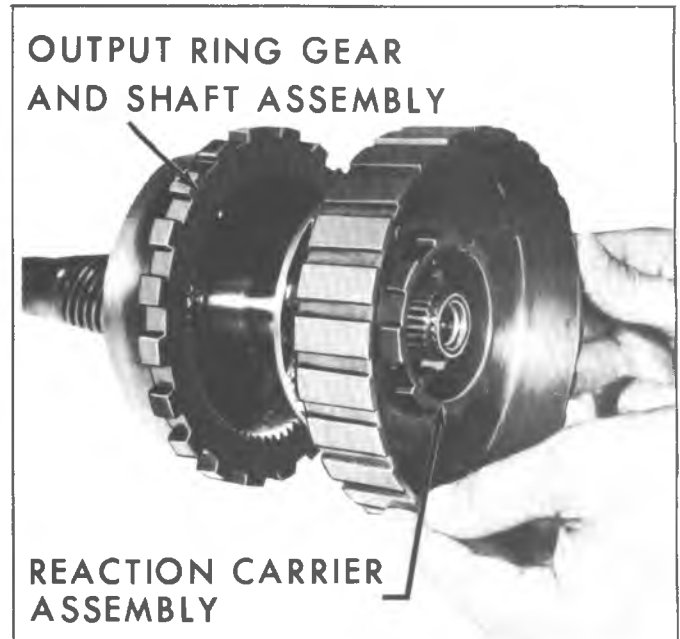

Fig. 7A-44B--Removing Reaction Carrier Assembly
17. Remove reaction carrier assembly from output ring gear and shaft assembly (fig. 7A-44B).